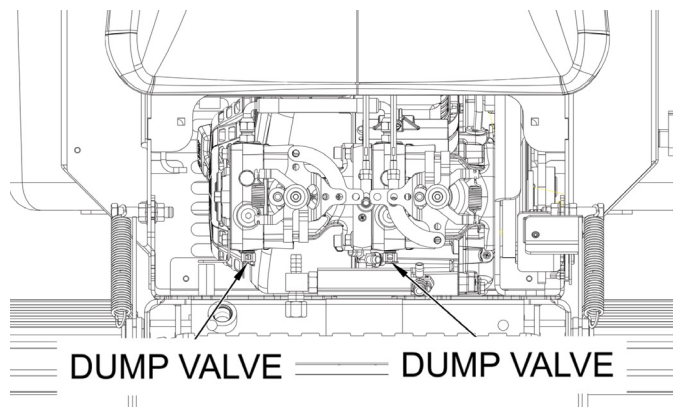
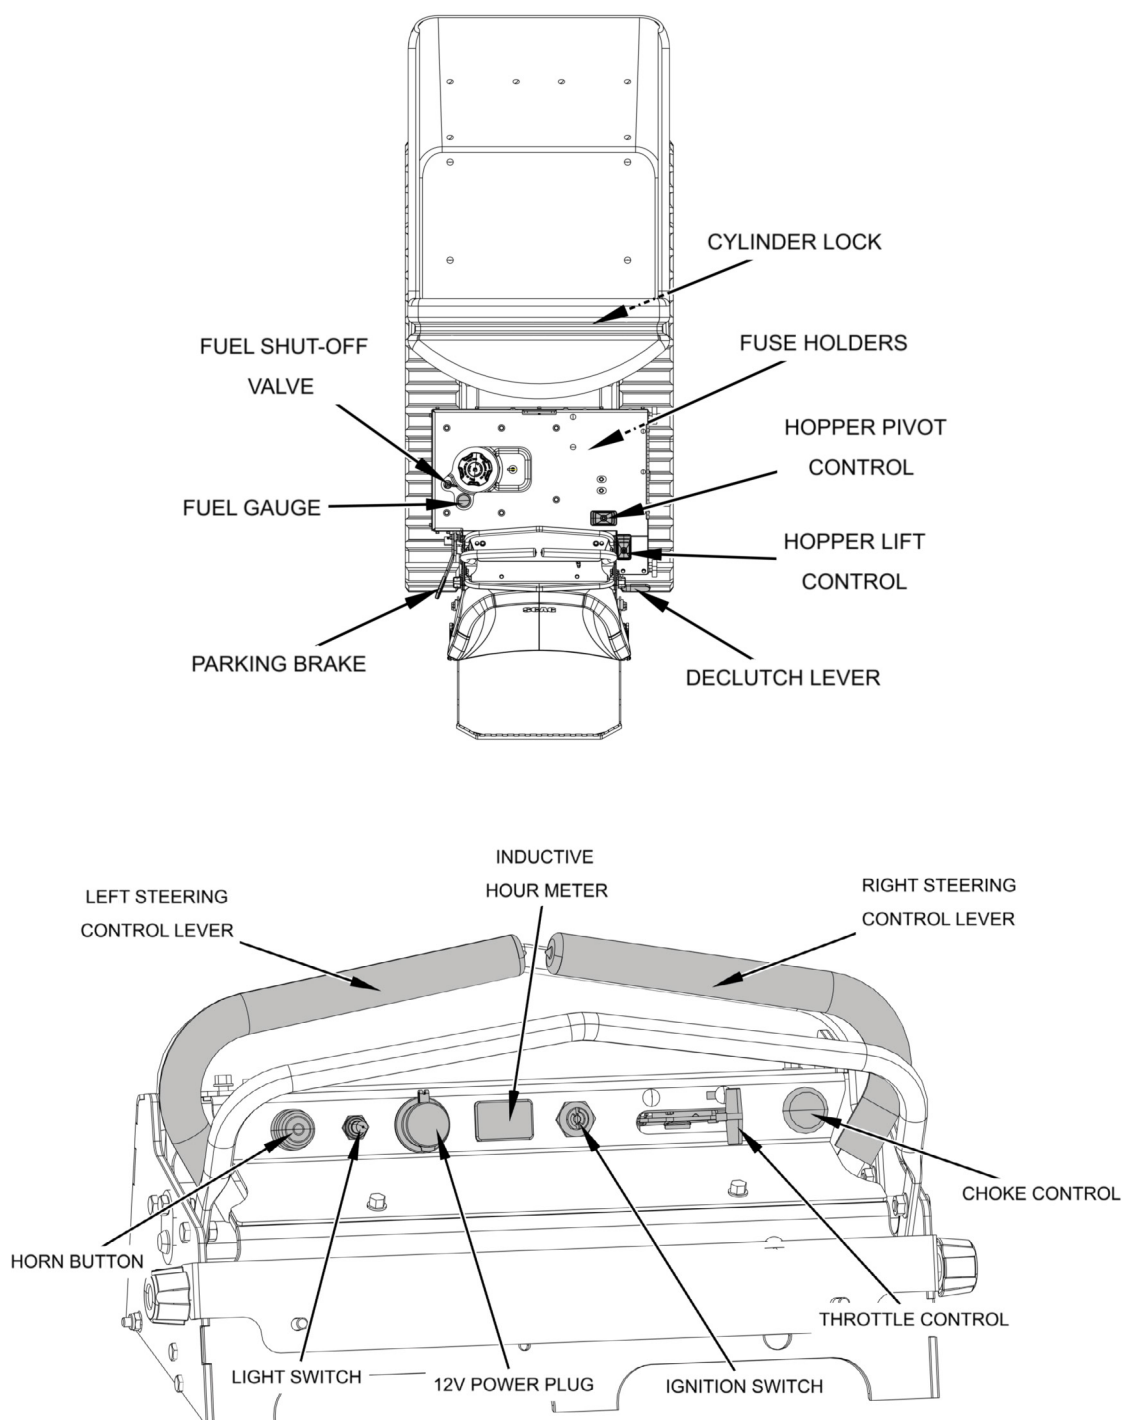

Figure 4-1. Dump Valve Location
Figure 4-2. Controls and Instruments
1. **Ignition Switch (Figure 4-2):** The ignition switch is used to start the engine and has three positions: OFF, ON, and START.
2. **Engine Choke Control (Figure 4-2):** Controls the air pressure in the intake manifold. Only use when starting a cold engine.
3. **Engine Throttle Control (Figure 4-2):** Controls the engine speed. Pushing the lever forward increases the engine speed. Pulling the lever back decreases the engine speed. The furthest back position of the lever is the IDLE position.
4. **Inductive Hour Meter (Figure 4-2):** Indicates the number of hours the machine has been operated for.
5. **Light Switch (Figure 4-2):** Controls the working lights on the machine.
6. **Horn Button (Figure 4-2):** Controls the horn on the machine.
7. **12V Power Plug (Figure 4-2):** An additional power supply for all your worksite needs.
8. **Left Steering Control (Figure 4-2):** Controls power to the left track. See Section 4.4 for further information regarding ground travel and steering.
9. **Right Steering Control (Figure 4-2):** Controls power to the right track. See Section 4.4 for further information regarding ground travel and steering.
10. **Parking Brake Lever (Figure 4-2):** Engages and disengages the parking brakes. Move the lever back and lock to engage the parking brakes. Unlock the lever and move forward to disengage the parking brakes.
11. **Hopper Lift Control Lever (Figure 4-2):** Controls the dump and lift action of the hopper.
12. **Hopper Pivot Control Lever (Figure 4-2):** Controls the turning pivot action of the hopper.
13. **Fuse Holders (Figure 4-2):** Two 20-amp fuses protect the electrical system of the machine. Pull a fuse out of the socket to replace.
14. **Fuel Gauge (Figure 4-2):** Indicates the amount of fuel in the fuel tank.
15. **Fuel Shut-Off Valve (Figure 4-2):** Controls the fuel supply to the engine. Located on top of the fuel tank and accessible on top of the machine.
16. **Dump Valve Controls (Figure 4-2):** Located on the hydraulic pumps and used to "free-wheel" the buggy. Rotating clockwise until closed allows the machine to move under hydraulic power. The levers must be in this position and torqued 7 to 10 ft-lb during the operation of the machine. Rotating counter-clockwise allows the machine to be moved by hand (free-wheeling). See Figure 4-1.
17. **Declutch Lever (Figure 4-2):** Detent control for the pump drive idler arm. Pull the lever out to lock the idler arm. Push the lever in to release the idler arm and allow motion.